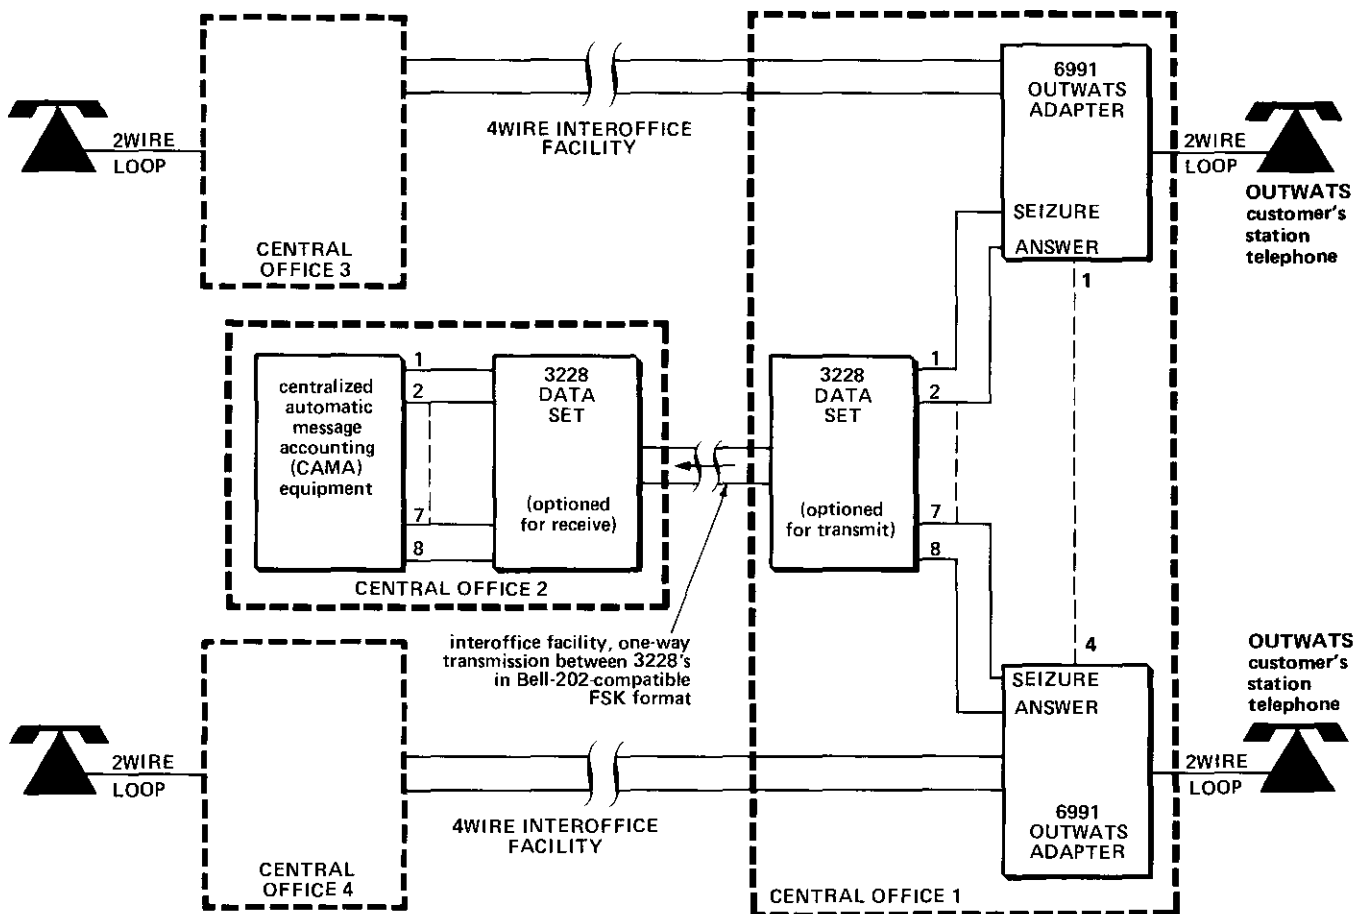

figure 5. Use of 3228 in time-of-day OUTWATS billing applications
2.05 Another application of the 3228 module is in FCC-required time-of-day billing arrangements for OUTWATS customers. This type of arrangement involves use of the 3228 in conjunction with the Tellabs 6991 OUTWATS Adapter module, as shown in figure 5. (In brief, the microprocessor-based 6991 allows OUTWATS service to be provided to a customer directly from a Class 3 or Class 4 toll center without the need for routing the customer's line through an intermediate Class 5 end office. Thus, the OUTWATS customer is connected directly to the toll network; the customer's local end office is bypassed, and its toll-originating traffic is reduced.) To implement time-of-day OUTWATS billing, a 6991's usage-metering (seizure and answer) leads are connected to two inputs of a transmit-mode 3228 module. (With its eight inputs, one 3228 can serve up to four 6991's, as shown.) The 3228 receives the usage-metering data from the 6991 modules and transmits it over an inter-office facility to a receive-mode 3228 at a distant CO. Centralized automatic message accounting (CAMA) equipment at the distant CO receives the usage-metering data from the receive-mode 3228 and analyzes the data for billing purposes.